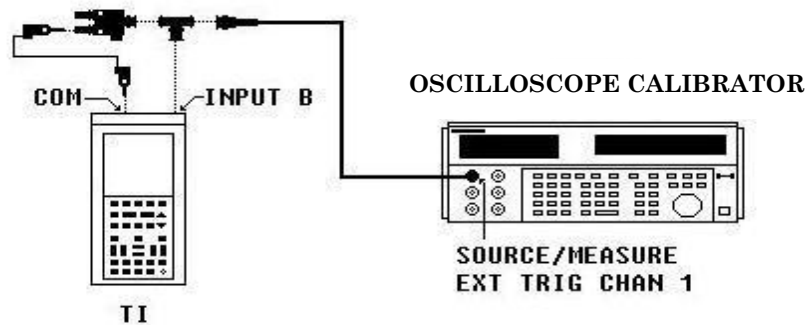

Figure 2. Scope vertical gain input B.
- (7) Connect equipment as shown in figure 2.
- (8) **(F1) CLOSE** which should display/highlight **CONTR.**